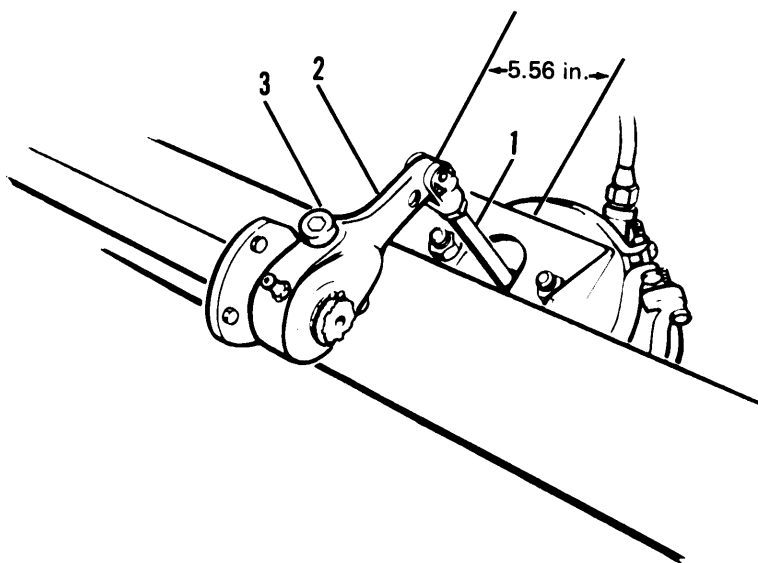

Figure 4-27. Slack Adjuster Adjustment
- (1) To release spring forces from slack adjuster and camshaft, apply air to brake chambers. Do not apply the brakes.
- (2) Jack up the axle to be adjusted. Check that wheels rotate freely.
- (3) Check clevis rod (1, fig. 4-27) adjustment. Dimension from outside of nonpressure housing to center of clevis pin should be 5.56 in. (13.34 cm). Slack adjuster (2) may have to be moved or adjusted to center hole in spring brake chamber with clevis rod (1). If dimensions of clevis are not correct, remove cotter pin, clevis pin and loosen locknut. Adjust clevis rod (1) to correct length. Tighten nut. Install clevis pin and new cotter pin.